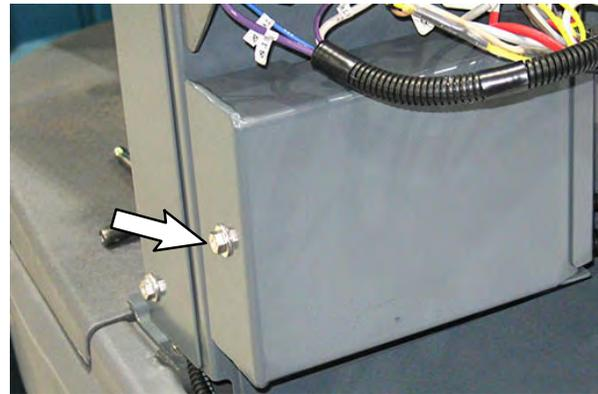

FIG. 15
- Remove the board cover from the board mounting plate. Set the board cover and mounting hardware aside. (Fig. 15)